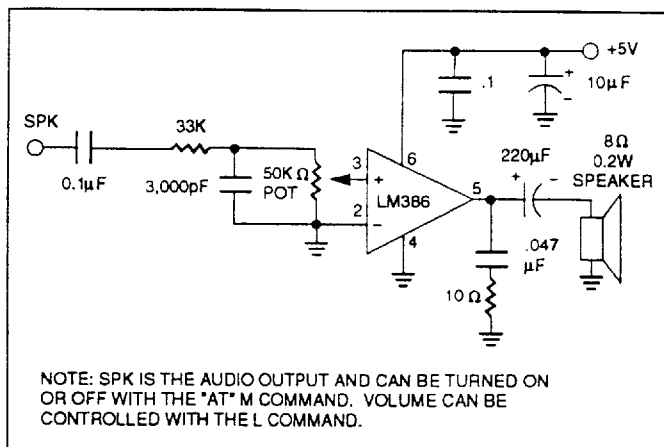

Figure 3. Speaker Control Circuit-
- 2) Speaker (SPK), Output: This output allows aural monitoring of the phone call progression. Apply this output to an amplifier and speaker. See Figure 3. This speaker output can be controlled via the AT commands